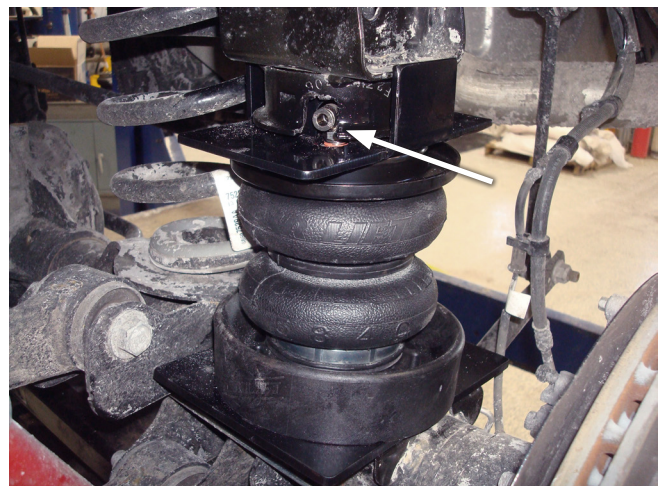

Fig. 16
3. Making sure the axle is still dropped, set the left (driver's) side air spring assembly onto the cradle and nest the upper bracket inside the jounce bumper cup. Repeat for the right-hand side and if needed, bring the axle up far enough to seat the upper brackets against the frame (Fig. 16).